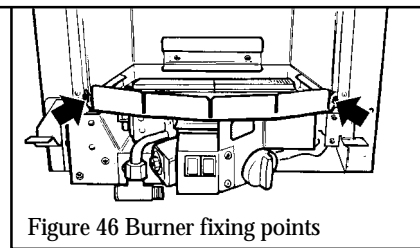

Figure 46 Burner fixing points
16.3.4 Detach the burner unit from the convection box by removing 2 screws (see figure 46). Carefully lift the burner unit forward making sure that the unit does not snag on any leads. Rest the burner on its front face to allow access to the pilot and gas tap.